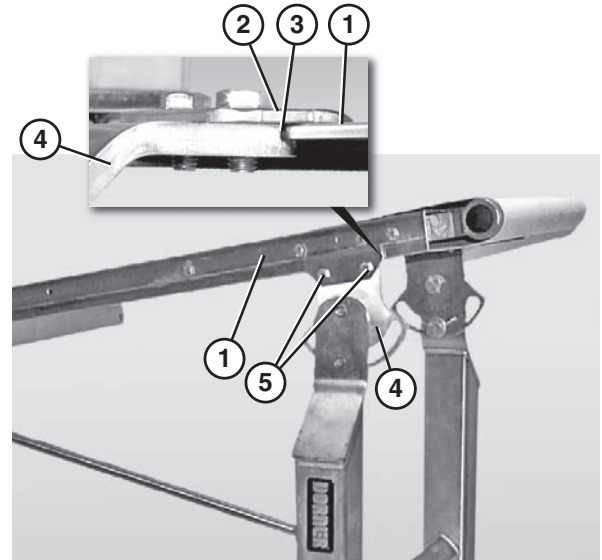

Figure 6
<p>Make sure the conveyor (Figure 6, item 1) is seated between the clamp plate (Figure 6, item 2) and the lip (Figure 6, item 3) at the top of the stand (Figure 6, item 4) before tightening the clamp plate screws (Figure 6, item 5).</p>
4. Attach the bracket (**Figure 6, item 4**) to the conveyor (**Figure 6, item 1**) and tighten the four screws (**Figure 6, item 5**) to 80 in•lb (9 N•m).